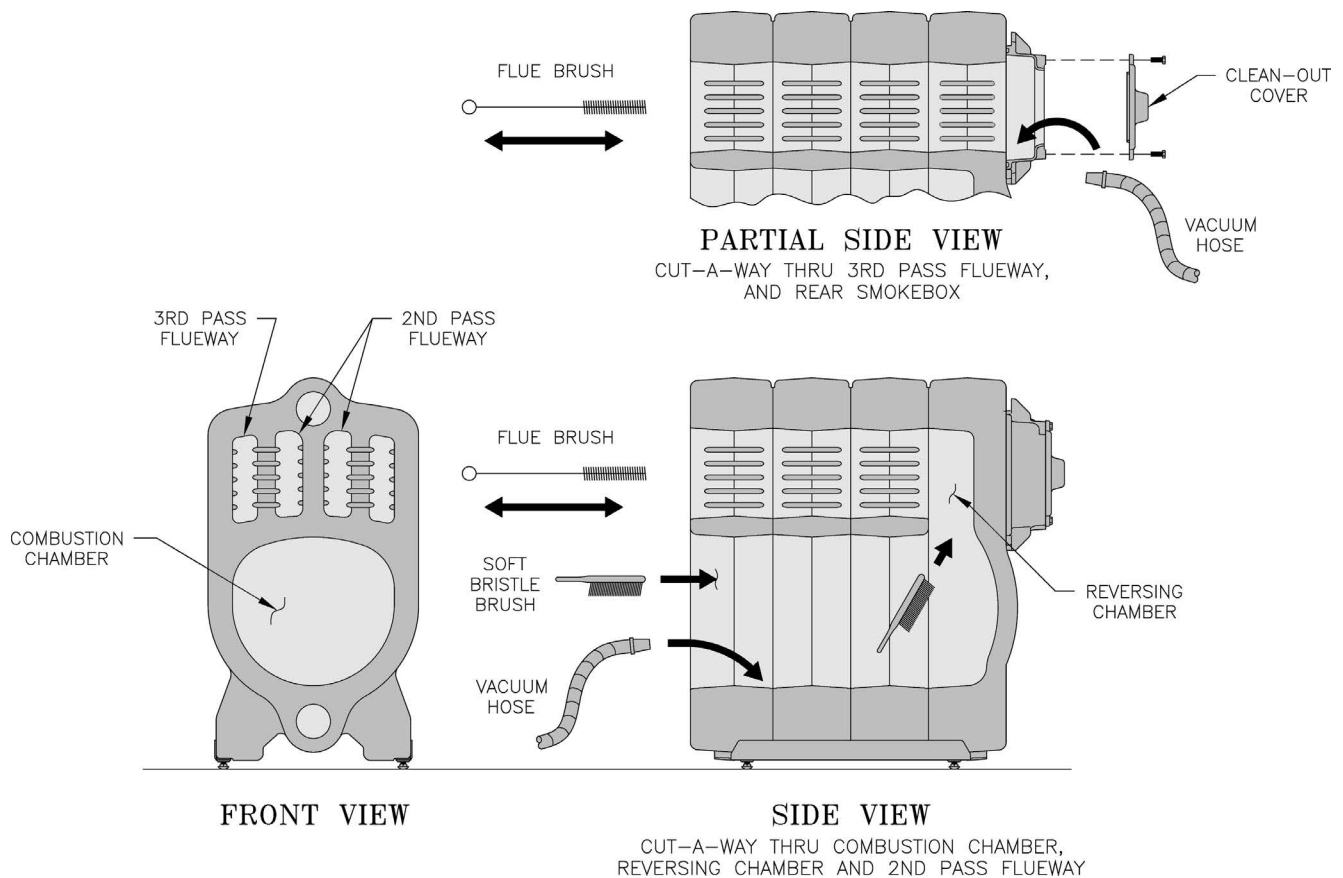

Figure 12-1: Cleaning of Boiler Flueways
A. CLEAN THE FLUEWAYS (See Figure 12-1).
1. For access to the combustion chamber remove the two (2) 3/8 in. - 16 cap screws. If boiler is equipped with flexible fuel line(s), swing door open.